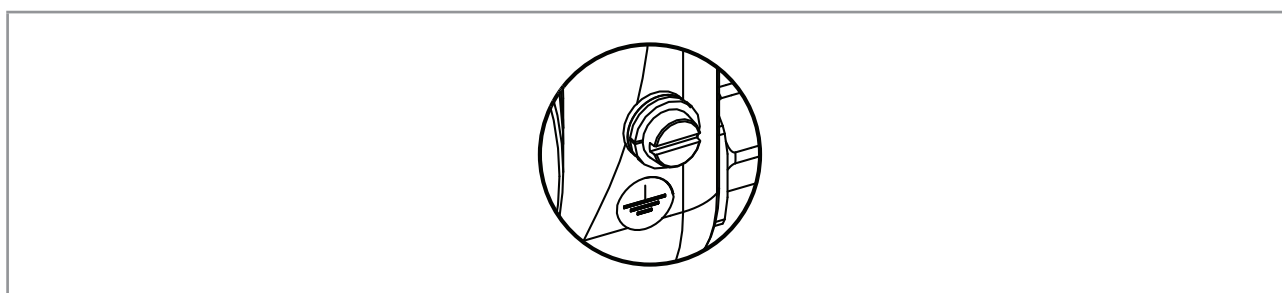

Fig. 28: Functional earth screw on the outer surface of the device
- or to the functional earth screw on the outer surface of the transmitter housing (see Fig. 28).